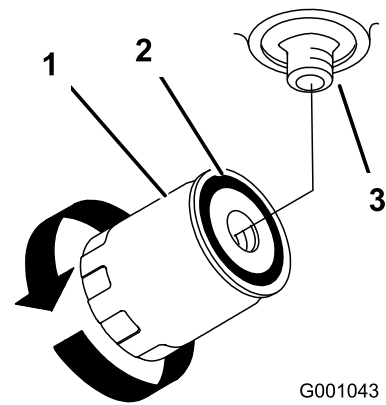

Figure 77
4. Apply a thin coat hydro fluid to the rubber gasket on the replacement filter (Figure 77).
7. Fill the hydraulic tank with hydraulic fluid until the fluid overflows the filter and then turn the oil filter clockwise until the rubber gasket contacts the filter adapter, then tighten the filter an additional 1/2 turn (Figure 77).